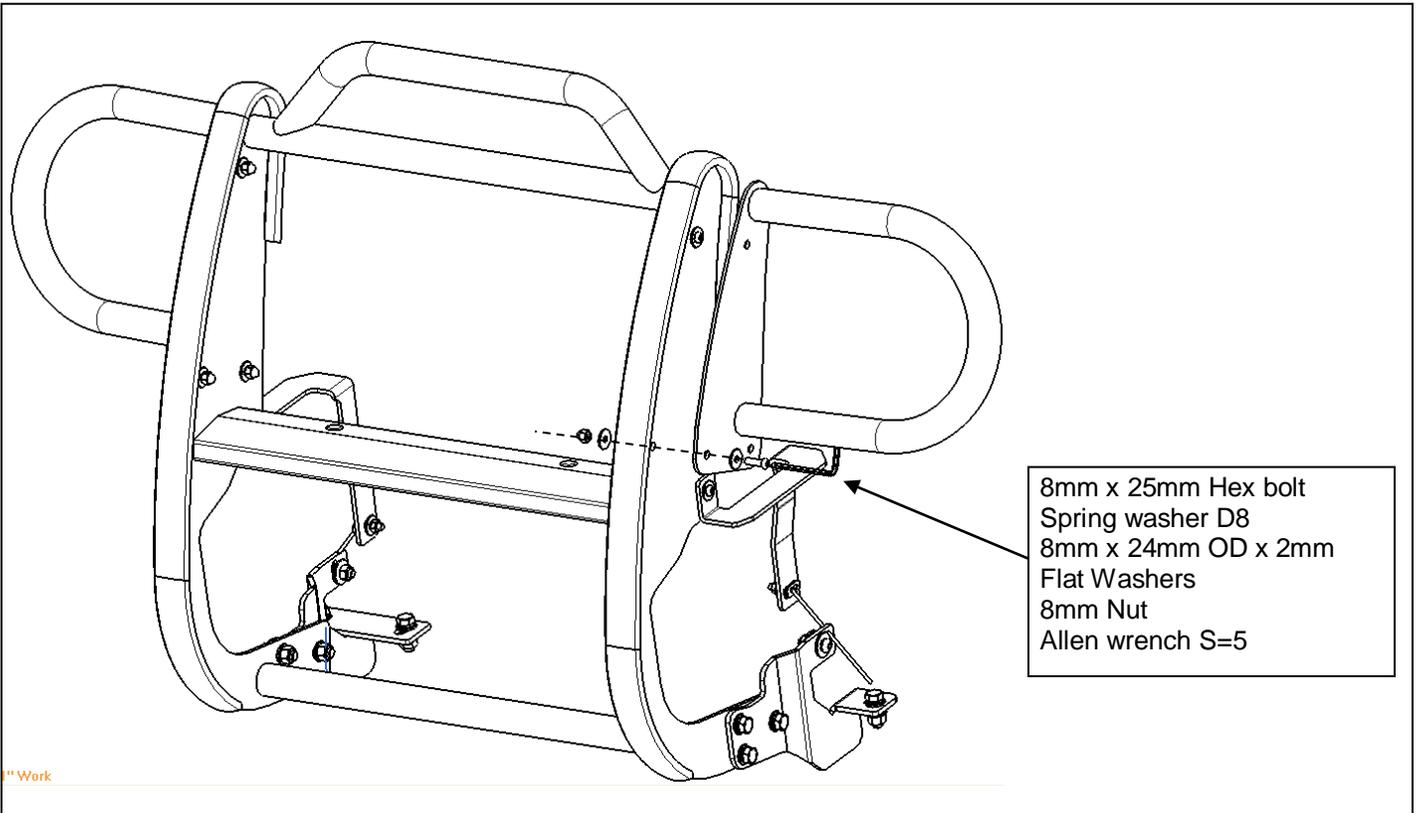

Fig 0A
- Using 8mm x 25mm Hex bolt to install left/ right brush guard on the front guard. **(Figure 0A)**